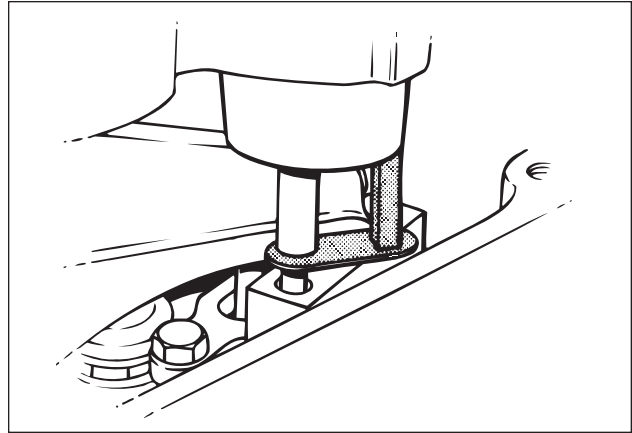

FIG. 14
4. Install the appropriate feeler gage (.027" for 411E, .015" for all others) between the slave piston and the actuating pin in the crosshead (see Fig. 14). Turn the slave piston adjusting screw until a slight drag on the feeler gage can be felt.